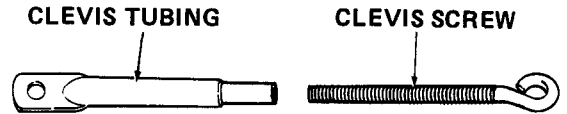

Figure A-22
10. Install clevis screw (8) and clevis tubing (9) as follows:
- a. Lightly oil threads on clevis screw and thread clevis screw into clevis tubing. Refer to Figure A-22.